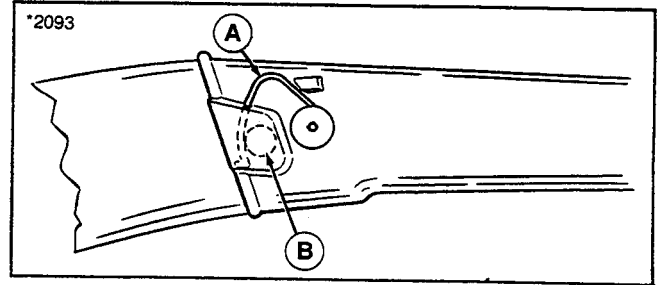

Figure 17.
21. Secure tube by moving wire form (A, figure 17) down over round cup (B) on adapter surface.